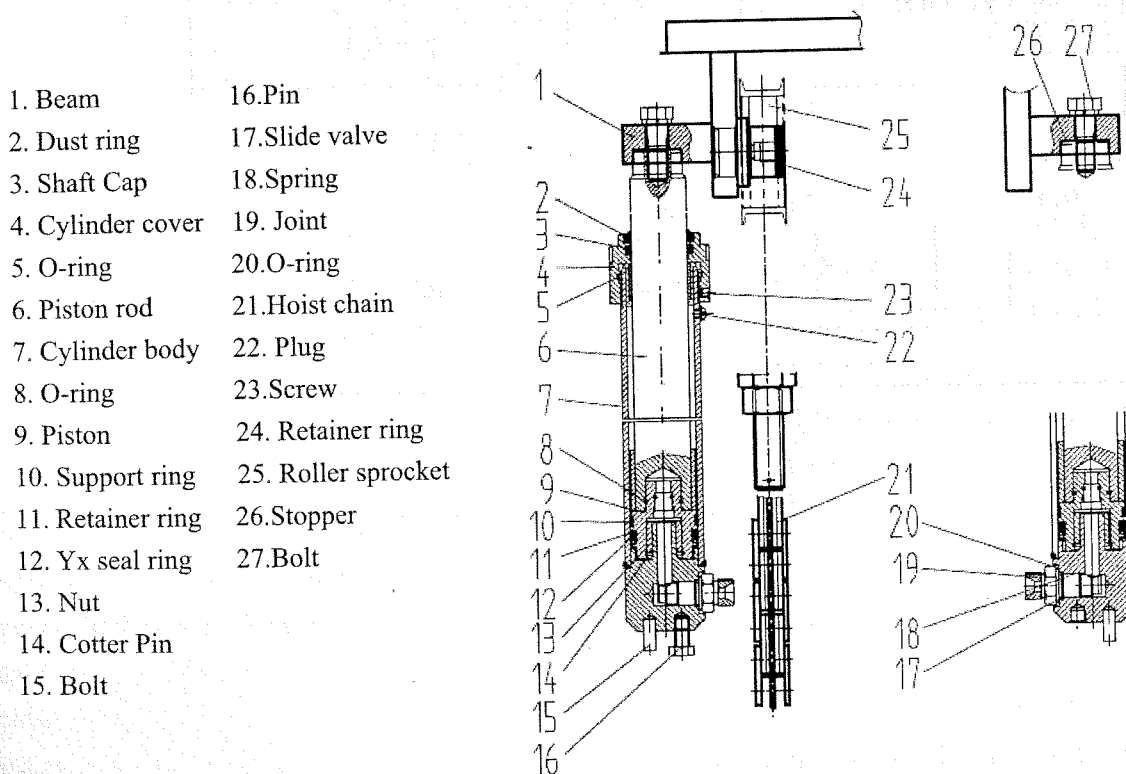

Fig 8-8 Lifting Cylinder
8.5 Lifting Cylinder (Fig 8-8)